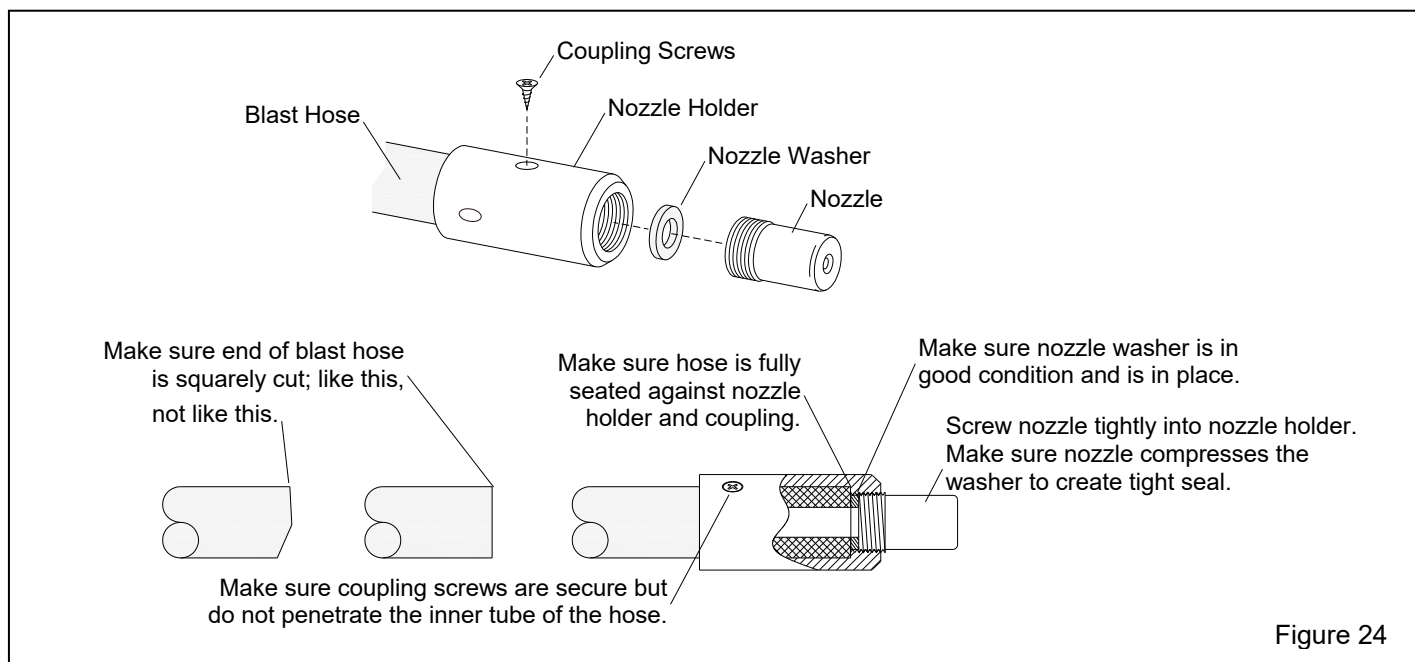

Figure 24
7.2 Blast Hose and Nozzle – Figure 24
7.2.2 When replacing blast hose, make sure the hose is square cut and that it is fully inserted into the nozzle holder and coupling until it sits tightly against the shoulder in the holder and coupling, as shown in Figure 24. Make sure correctly sized screws are used to secure the nozzle holder and blast hose coupling. Screws should not penetrate the inside of the blast hose.